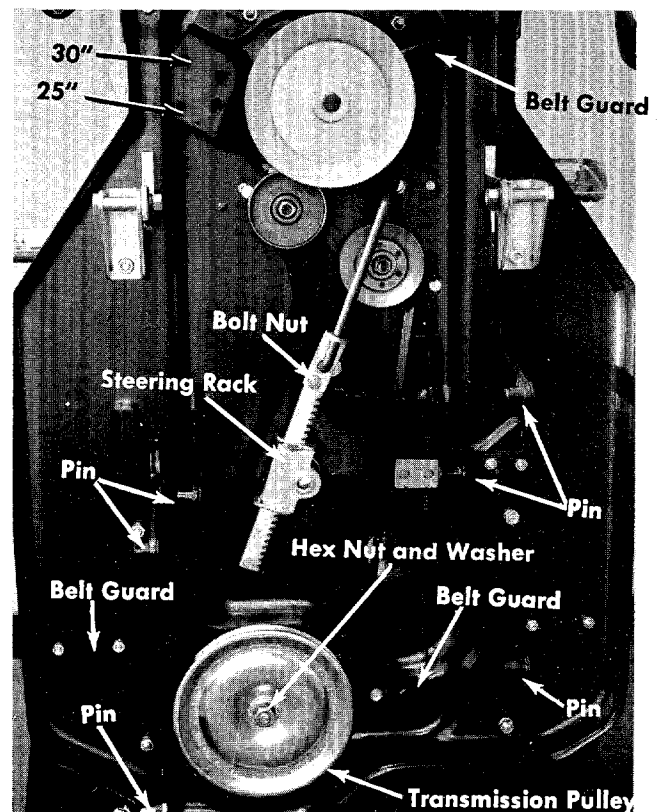

FIGURE 21. BOTTOM VIEW
- Step 6. Remove the six pins holding the deck to the frame. See figure 21.
- b. Remove the two belt guards from the transmission pulley. See figure 21.